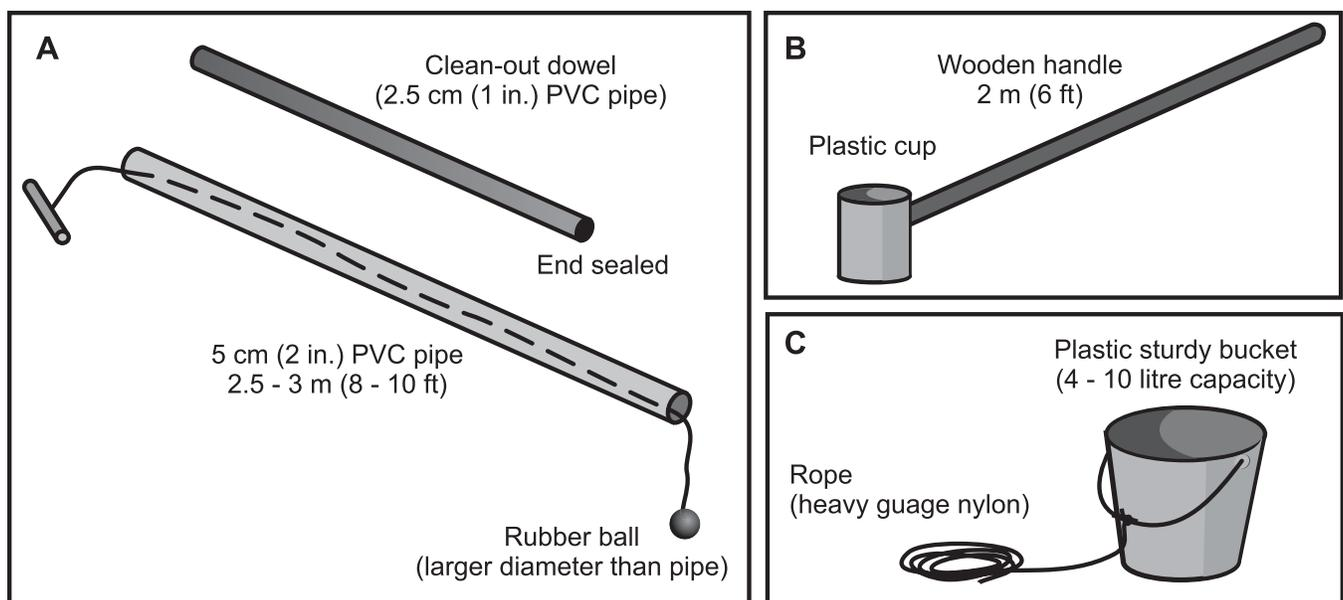

Figure 3. Liquid manure sampling devices: (a) composite (b) pole-and-cup (c) bucket and rope
2. a small collection can or a pole-and-cup device (Figure 3), a bucket or a pan
**Step 1** Using a sample collection device (Figure 3) to collect several grab-samples:
2. a manure-sampling device (Figure 3):
- pole-and-cup device: a pole 3 to 4.5 m (10 to 15 ft) long with a cup attached to the end (Figure 3)
- bucket and rope (Figure 3)
To collect a sample using a composite sampling probe (Figure 3), start by brushing away floating debris or scum from the collection area to avoid collecting it in the sub-sample. Extend the pipe into the storage about 2 metres (6 feet) away from the edge of the storage. Be careful not to plug the end of the pipe with sludge from the bottom of the lagoon. Once the tube reaches the bottom of the storage, the tube is sealed off using either a bull plug on the bottom (attached to a handle at the top) or by covering the top of the pipe with your hand (to create an air lock).
Alternatively, a pole with a cup (Figure 3) may be used to dip into the storage and take samples from 8 to 12 different locations near the top, middle and bottom of the structure. Collect each sample about 2 metres (6 feet) from the edge of the storage. Avoid floating debris or scum when collecting the sample. In an unagitated lagoon, this method is less accurate than the column method. Samples may be collected either in one composite pail or in a pail for each sampling depth.